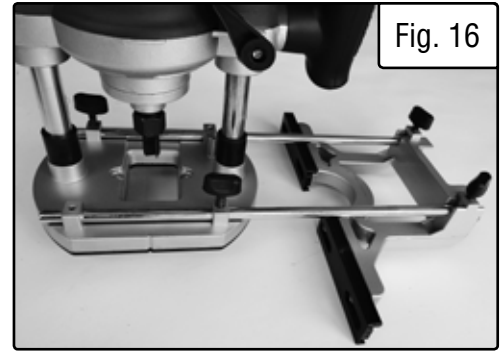

Fig. 16
2. Attach the straight guide fence to the router base by passing the poles through the holes in the base (Fig. 16). Make sure that each pole passes through both holes on the router base.